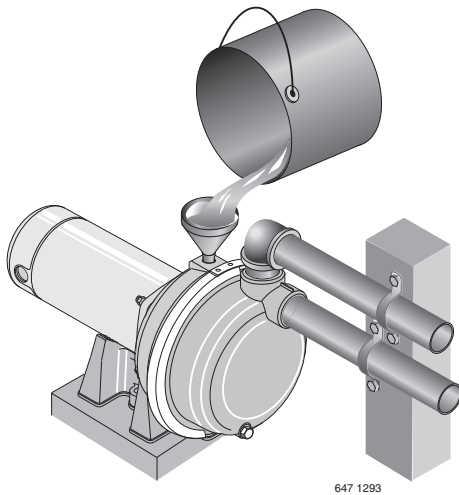

Figure 5: Fill Pump Before Starting
- Step 3. Fill pump and suction pipe with water (Figure 5).